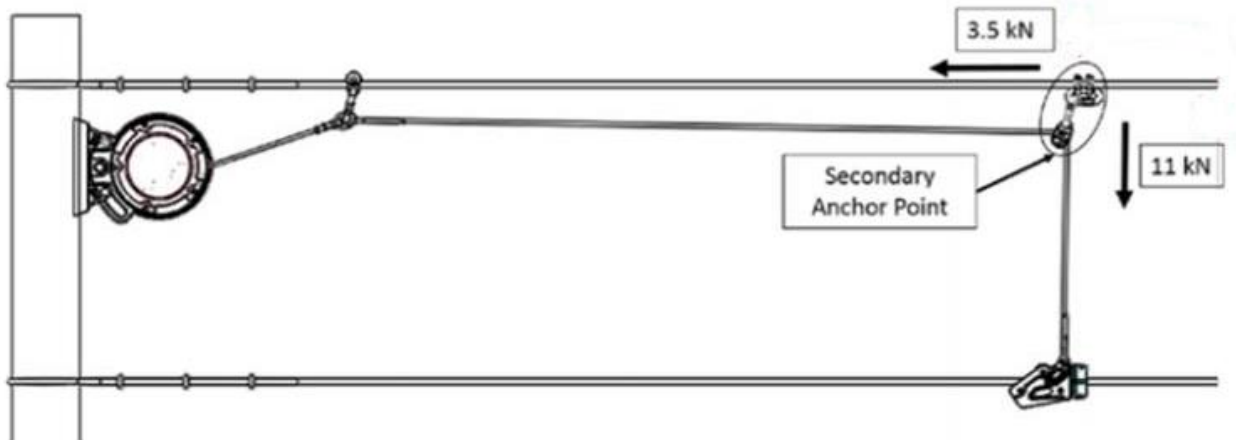

Figure 1
**Detail of Issue:** The following image (Figure 1) was added in the zipSTOP Manual P/N 01170006603 (Revision 3) published in February 2017: